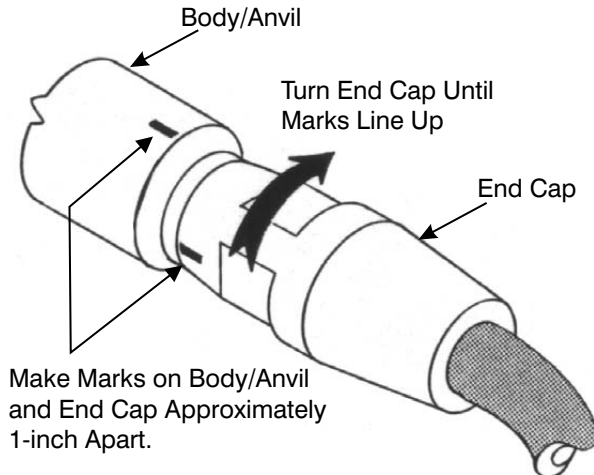

Figure 9-38. Tighten End Cap.
11. Tighten the End Cap to a torque of 550- ft.-lbs (745nm). If a torque wrench is not available, use the following procedure. See Figure 9-38.